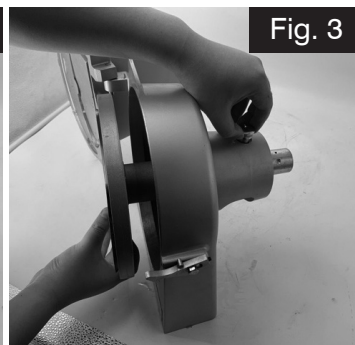

Fig. 3
2. Lift the lock pin and seat the plate unit with a gentle twist. (Fig. 3)